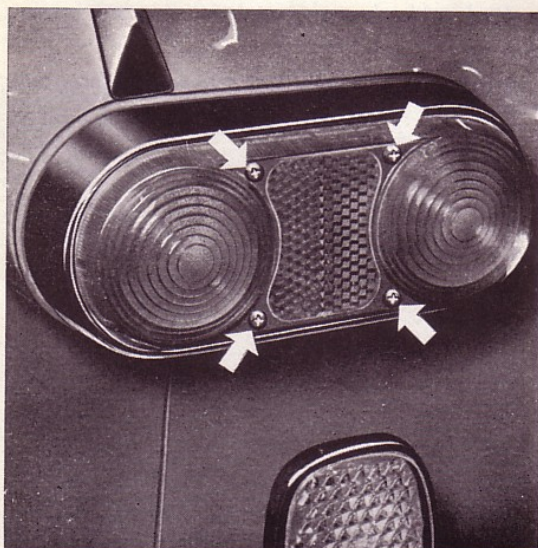

Fig. 88. Rear lamp
1. Unscrew the four nuts securing the glass, see Fig. 88.